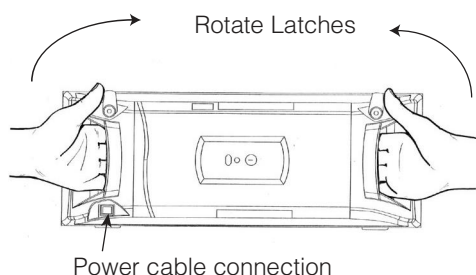

Figure 30 Rotating Door Latches
4. Rotate the two latches and remove the door as shown in Figure 30. Place the door in a secure location.